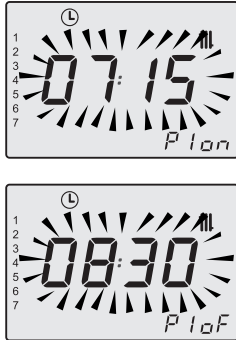

Fig. 2.13
To confirm once time has been set press key 18 then 13 to exit back to the day/group of days selection (Fig. 2.13).